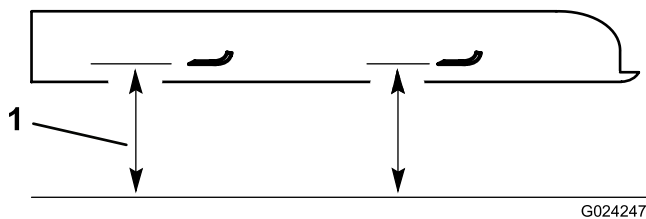

Figure 54
4. Measure from a level surface to the cutting edge, position A, of the blades (Figure 54).